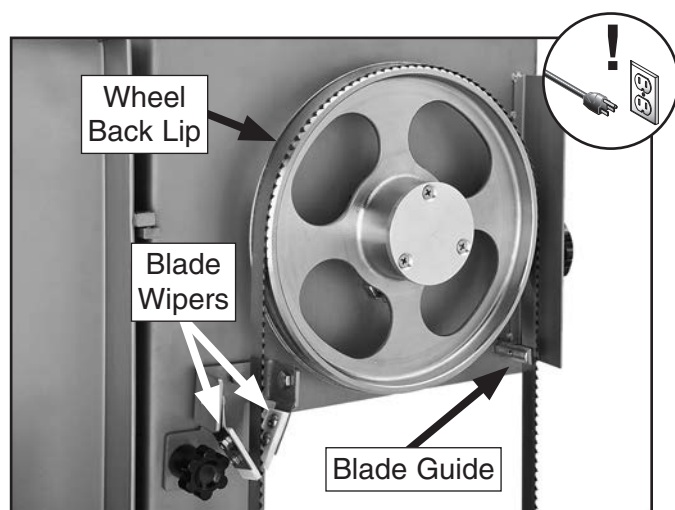

Figure 7. Top wheel.
4. Install replacement blade on wheels and make sure of the following conditions (refer to **Figures 7–8** for identification):